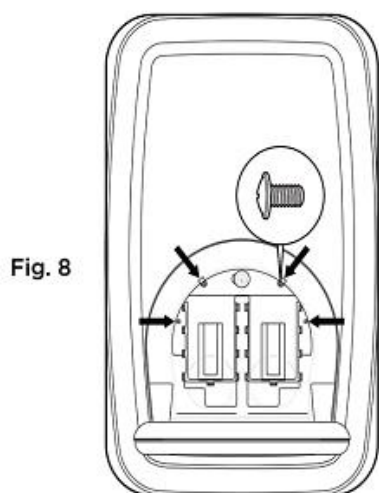

Fig. 8
- Use the provided hardware to secure the liner dispenser to the metal frame. **Fig. 8**